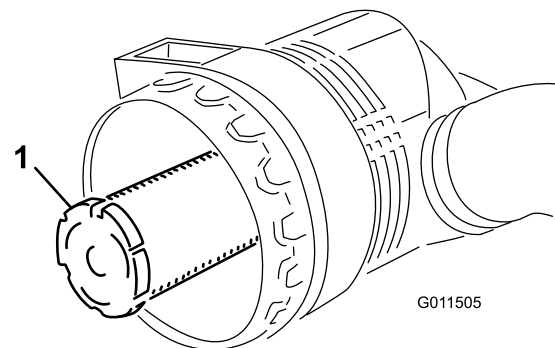

**Figure 51**
2. Before removing the filter (Figure 51), use low pressure air (40 psi, clean and dry) to help remove large accumulations of debris packed between outside of primary filter and the canister. Avoid using high pressure air which could force dirt through the filter into the intake area. This cleaning process prevents